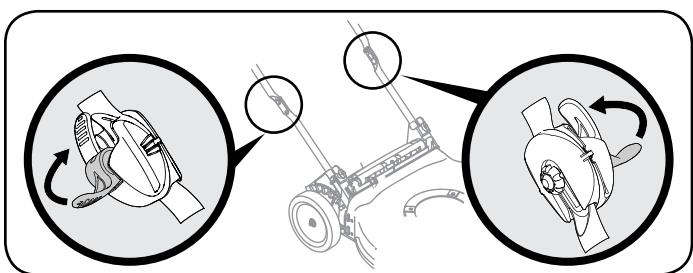

Figure 3
5. Place the release levers in the locked position. See Figure 3.